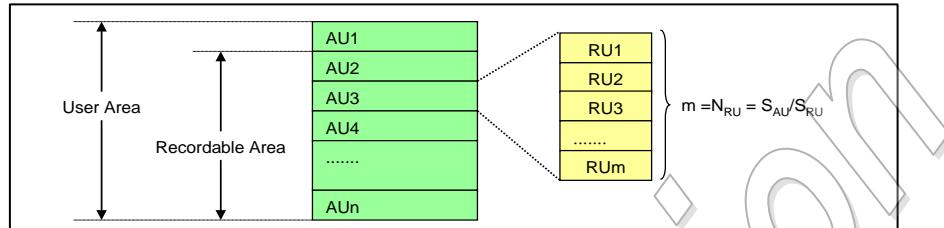

Figure 4-47 : Definition of Allocation Unit (AU)
4.13.1.1 Allocation Unit (AU)
The User Area is divided into units called "Allocation Unit (AU)" (Refer to Figure 4-47). AU is physical boundary in User Area of a card and is not defined by the file system boundary. Each card has its own fixed **AU Size (SAu)** and the maximum AU Size is defined depending on the card's capacity. The host
4.13.1.2 Recording Unit (RU)
Each AU is divided into units called "**Recording Unit (RU)**" (Refer to Figure 4-47). The unit of **RU Size (S_{RU})** is 16KByte. The RU Size is a multiple of 16KByte and shall not span across an AU boundary. Larger RU size may improve performance. The condition and requirement of the minimum RU Size is defined by Section 4.13.1.8.1. **The number of RUs in an AU (N_{RU})** is calculated from S_{AU}/S_{RU}.